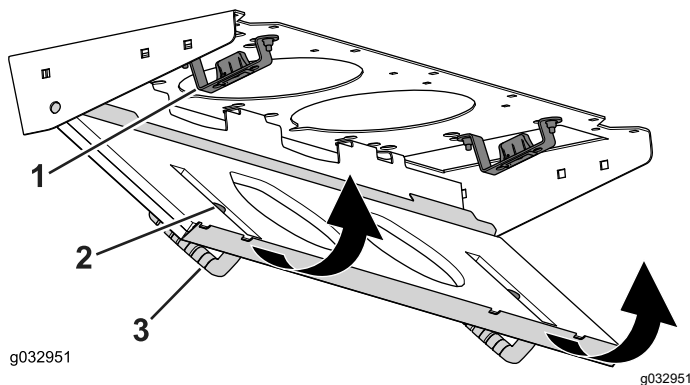

Figure 149
4. Rotate the filter screen around the tabs until the latch locks into the latch-mount assembly (Figure 149).